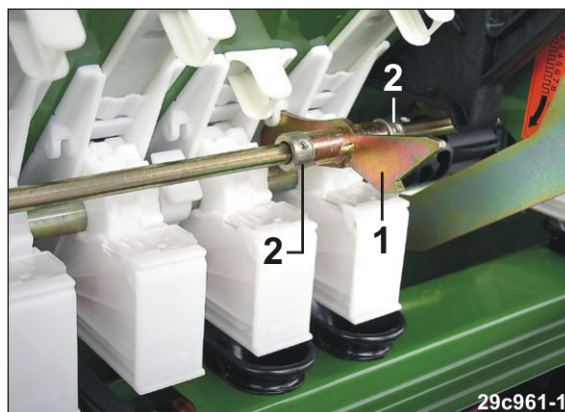

Fig. 243
- When doing so, insert the bracket (Fig. 243/1) that secures the lay shaft in an axial position into the recess of a seed housing.
5. Secure the bracket axially with two set collars (Fig. 243/2).